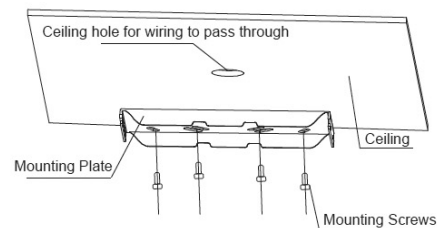

Figure 3-2
2. Align holes of the mounting plate with holes on ceiling. Fix the mounting plate to the ceiling with screwdriver. Figure 3-2